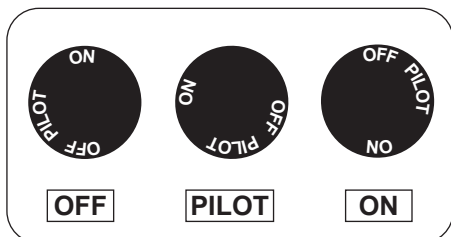

Fig. 25-1 Gas control knob
2. Locate the valve on the unit. Push in the gas control knob slightly and turn clockwise  to **OFF** (Fig. 25-1).
4. Turn the control knob counterclockwise  to **PILOT**. Push the knob **firmly and fully** in and hold. Push the piezo igniter button several times until the pilot lights. Continue to hold the knob in for about one (1) minute after the pilot is lit. Release the knob and it will pop back out. The pilot will remain lit. See Fig. 25-1 and 25-3. If it goes out, repeat steps 2-4. Alternatively, a long-stem match/ long-necked butane lighter can be held near the thermocouple to light the pilot.
1. Ensure the pilot is burning. Turn the control knob counterclockwise  to **ON** (see Fig. 25-1).
To shut down the burner and pilot (total shutdown), flip the toggle switch to **OFF**, and push in the control knob slightly and turn clockwise  to **OFF** (see Fig. 25-1 & 2).